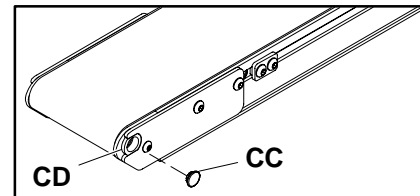

Figure 23
All non-driven positions have a plastic plug (CC of Figure 23) installed into the ends of the pulley retaining sleeves (CD). Use a small flat screwdriver to remove this plug.
Install the plastic plug (CC of Figure 23) into the ends of the pulley retaining sleeves (CD).